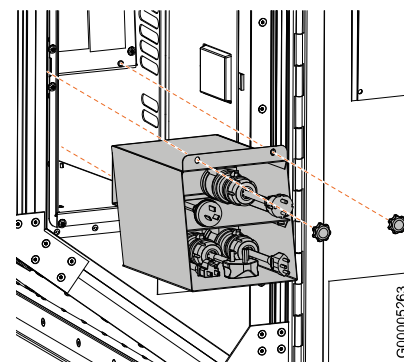

Fig. 28
4. Remove the thumbscrews and pull out the adapter case (**Fig. 28**). Place the thumbscrews in the adapter case.